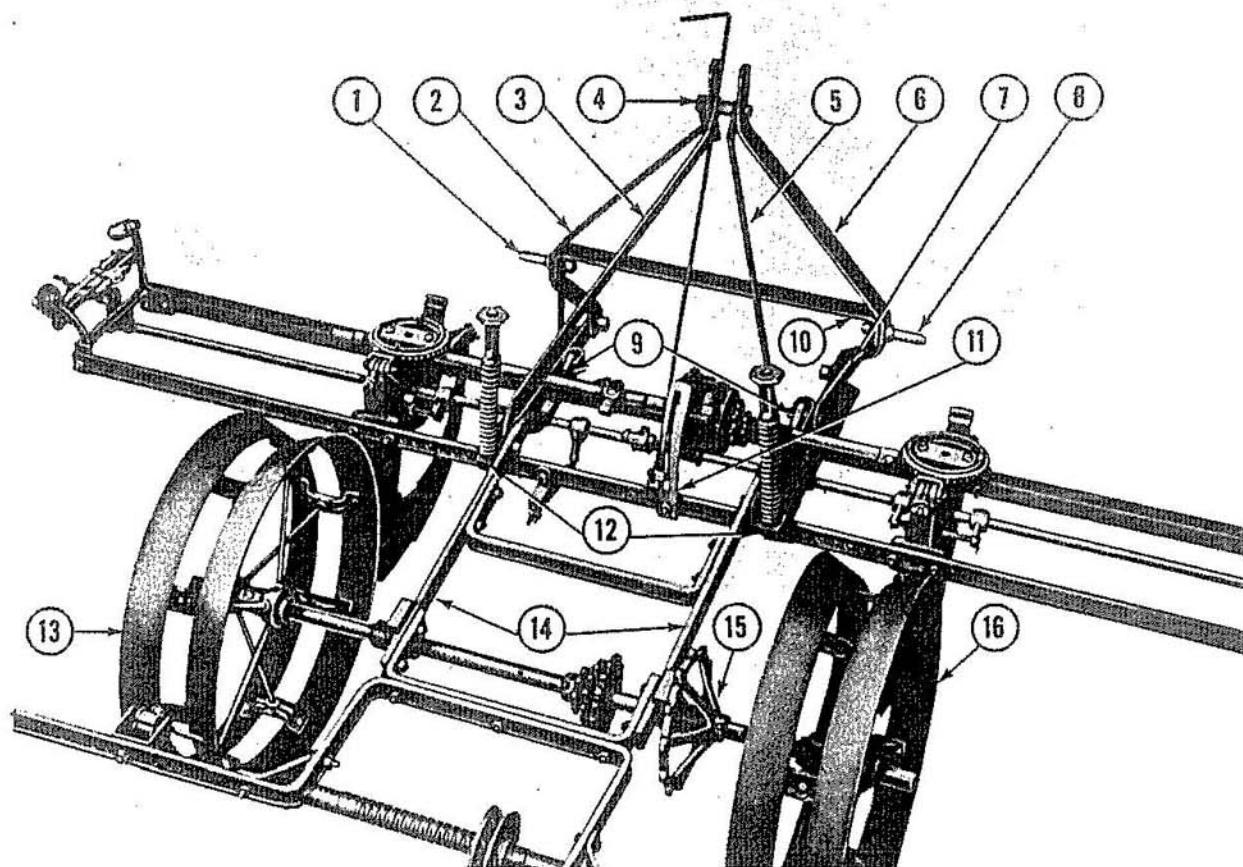

Figure 2
- a. Position the struts (2) and (6), Figure 2, on the front frame and secure loosely with the bolts, lockwashers and nuts provided.
- b. Attach the struts (3) and (5), Figure 2, to the front frame as shown. Do not tighten these struts securely to the frame at this time.
- c. Place the cross-member (10), Figure 2, between the struts (2) and (6) and insert the link pins (1) and (8). Install the short braces (7), Figure 2, on each side of the planter frame. Secure the link pins with the lockwashers and nuts provided.
- d. Pull the "A" Frame struts together and insert the bushing and bolt (4), Figure 2. Position the seed selector rod bracket over the bolt as shown and secure with the lockwasher and nut provided. Tighten all members of the "A" Frame securely at this time.
3. Position the reel drive sprocket (15), Figure 2, on the axle as shown and secure with the cotter pin provided. Attach the wheels (13) and (16).
4. Attach the rear frame (14), Figure 2, to the pivot brackets (9) on the front frame with the bolts, bushings, lockwashers and nuts provided. Secure the braces (7), Figure 2, as shown.
5. Attach the two mounting brackets (12), Figure 2, to the front frame with the bolts, lockwashers and nuts provided. It may be necessary to remove or loosen the spring assemblies at this time to facilitate assembly.
6. Attach the notched seed selector guide (11), Figure 2, to the front frame as shown. Position the selector arm through the bracket on the "A" frame and attach it to the notched seed selector guide as shown.